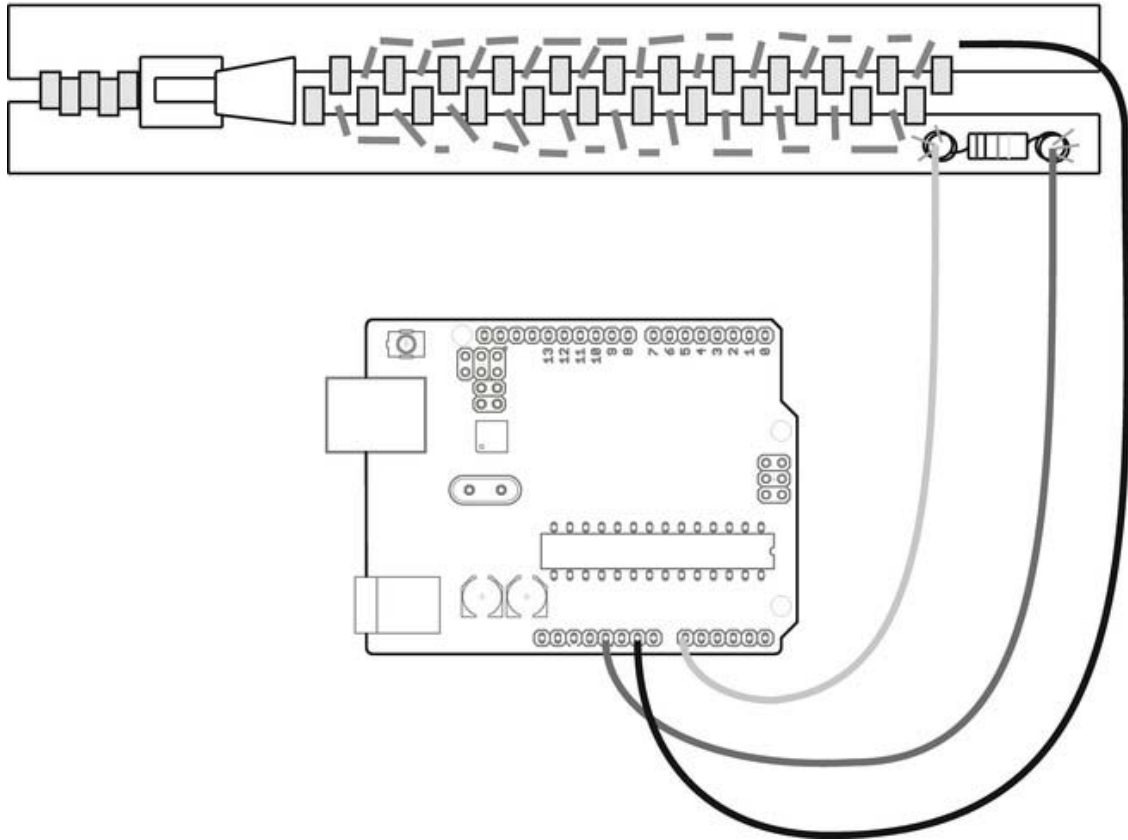

Figure 8-6. Hooking up the zipper to the Arduino 5V, GND, and analog pin 0
- One at the end of the opposite side of the zipper, as shown in Figure 8-6.
Once you are done stitching the zipper, it is time to test it. The zipper might be the most crucial component in the entire book to test because once it is put in place on the bag, it is very hard to change it. But for testing, we will just add some temporary cables to connect it to the Arduino. I recommend using a normal Arduino board for this since it's much quicker to test with. Figure 8-6 shows how to connect your zipper to the Arduino board.